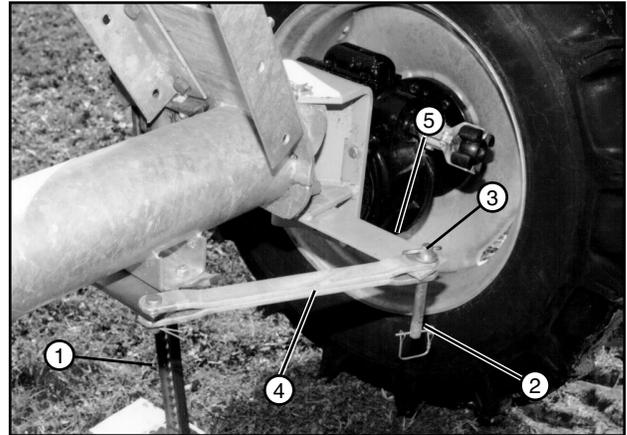

Figure 67-1 1. Jack
1. Use a jack to lift one side of the drive unit until the tire is off of the ground. See Figure 67-1.
3. Remove the lynch pin from the torque pin, then remove the torque pin and disconnect the tow link bar from the steering arm. See Figure 67-1.